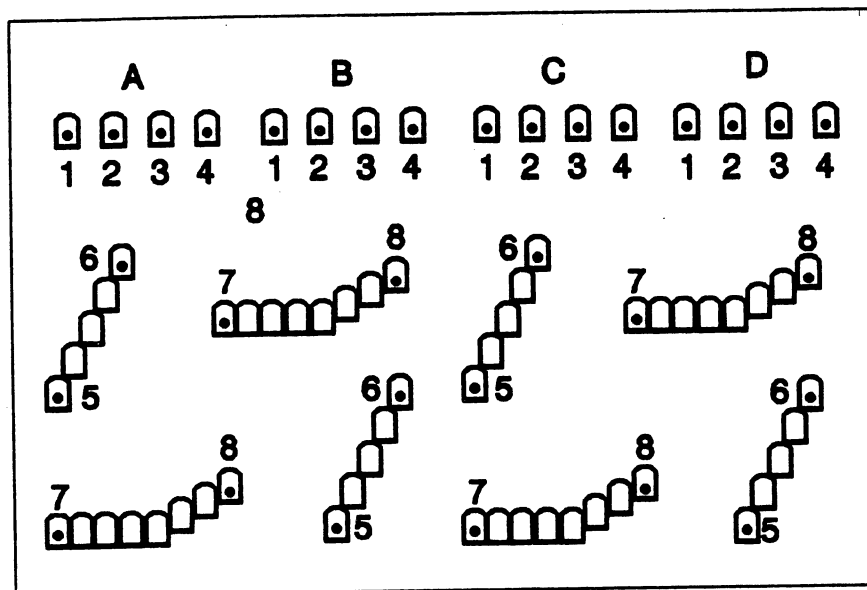

Fig 5-7. Basic machinegun qualifying target.
- (1) **Squad leader.** Issues this command: "**With a 6-round belt, load, paster number 1 (2, 3 or 4), 500, fixed, 6-round burst, at my command, fire.**"
- (2) **Team leader.** Loads the machinegun with a 6-round belt
- (3) **Gunner.** Manipulates the traversing and elevating (T&E) mechanism to obtain sight alignment and sights picture at 6 o'clock on the black paster of target (A) 1 through 4 (see fig 5-7).
- (4) **Gunner.** Engages targets as directed.